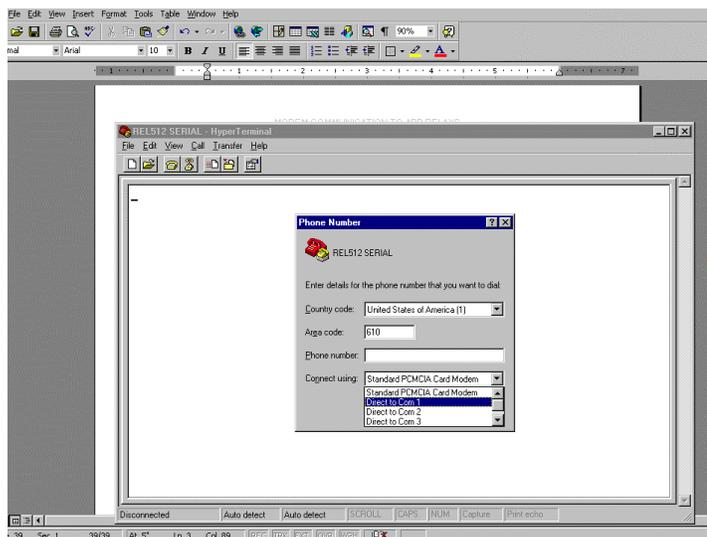

Figure 36. COM Port Configuration for Attachment of Hyperterminal Session
4. The COM properties for the modem must be selected for this example to those selected for the REL512. In this case the same settings configured for the REL512 in STEP 3 are selected for the interface. Notice that the settings are selected in Figure 36 for those configured in STEP 3. Notice for this example, hardware handshaking is enabled for RTS/CTS configuration (since HYPERTERMINAL TO MODEM CONFIGURATION IS OCCURRING NOTE: REL512 DOES NOT HAVE HANDSHAKING AND THE MODEM WILL BE CONFIGURED AS SUCH).